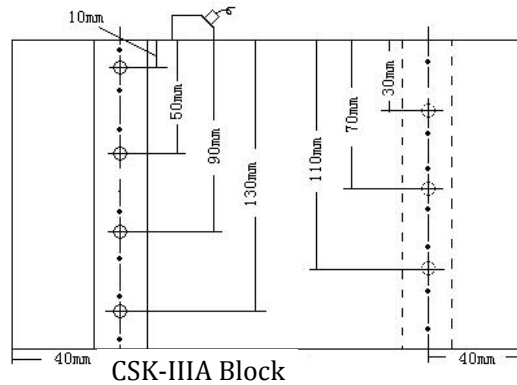

Figure 4-10
2. Couple the probe to the reference block to make the echo of the first reference point reach the highest level (we use CSK-IIIA test block as an example, as shown in Figure 4-10).